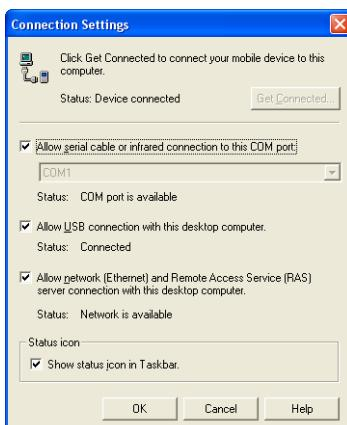

Figure 1-8. Connection Settings
3. Select the following parameters (Figure 1-8):